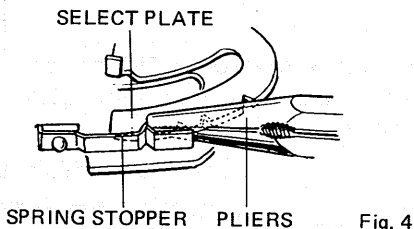

Fig. 4
3. Move the select lever. See Fig. 4. Check that the separated rim of the record size selector plate is not bent or raised above the sub-chassis. Refer to step 5 in adjustment procedure.
- If check 3 (see Fig. 4 on page 4) shows that (record size) selector plate is bent, straighten with long nose pliers, etc.